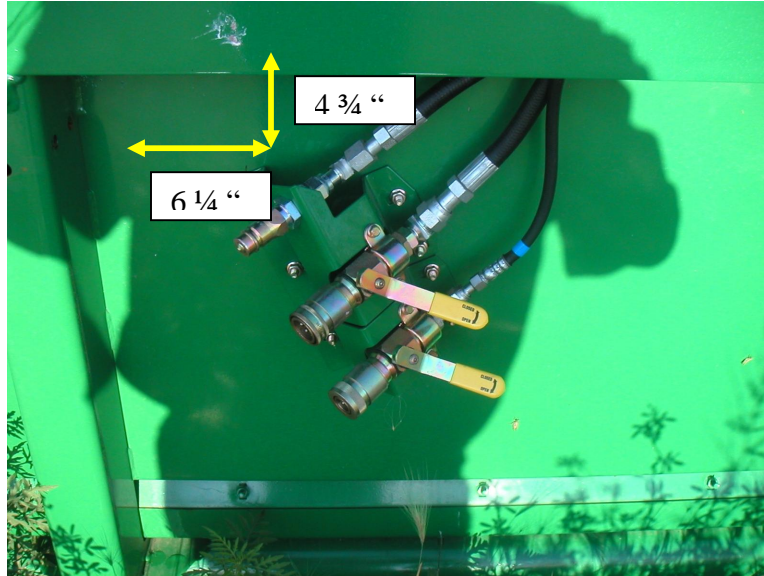

Figure 15
1. From top edge of sheet metal measure down $4\frac{3}{4}$ inches. From vertical beam, measure over $6\frac{1}{4}$ inches and mark. (See Figure 15)